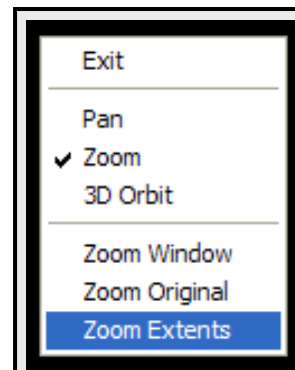

Fig.5: Right Click
- Right click mouse again, choose *Zoom Extents* (Fig.5),